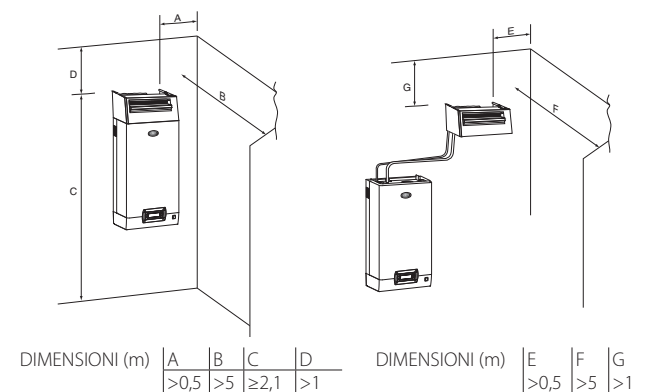

Fig. 3.c
2. the "L"-shaped mounting support (see part 1 Fig. 3.c) is supplied with steam distributor models from DP085\* to DP025\*. For shorter lengths, the support can be supplied as an option (code 18C478A088).
During the operation of the humidifier some of the steam may condense, causing a decline in efficiency and noise (gurgling). To drain the condensate, connect a drain hose with a drain trap and a minimum slope of 5° to the bottom of the humidifier (see Fig. 3.d). CAREL condensate drain hoses: code 312353APG